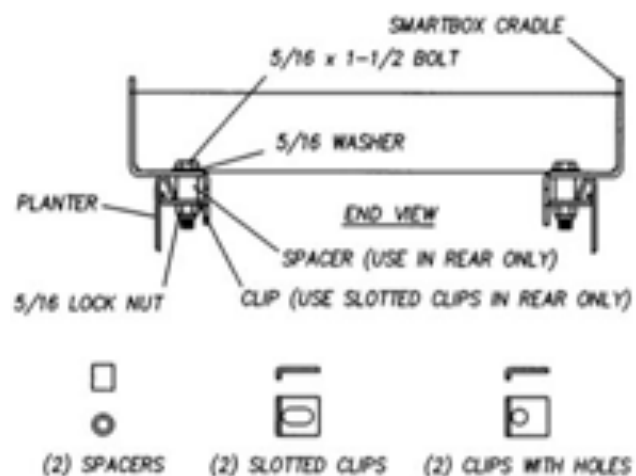

Figure 6
2. Orient SmartBox[®] cradle as shown (see Figure 6).